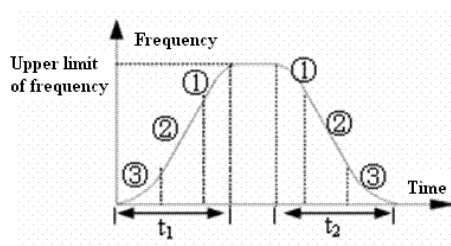

Fig.4-5 S-curve
Output frequency increases or decreases as S-curve, see Fig.4-5.
Low speed time of S curve is shown in Fig.4-5 ③, the output frequency slope increases from 0.
Linear time of S curve is shown in Fig.4-5 ②, the output frequency slope is constant.
High speed time of S curve is shown in Fig.4-5 ①, the output frequency slope decreases to 0.